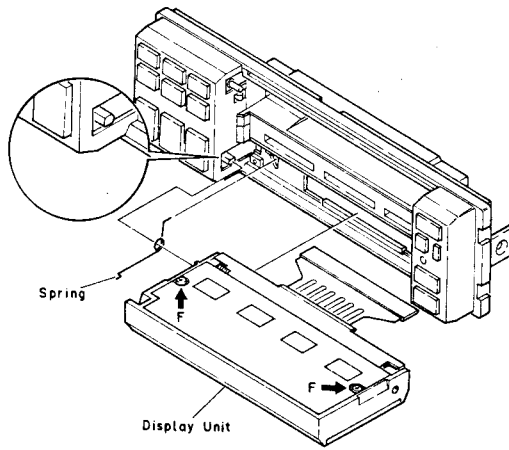

Fig. 10
3. The display can then be removed as indicated in Fig. 10.